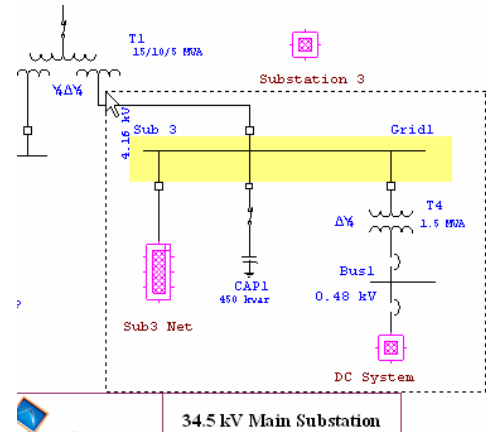

Fig. 6
6. Rubber band an area enclosing all the components that will be placed to “Substation 3” composite network to select them. See Fig. 6